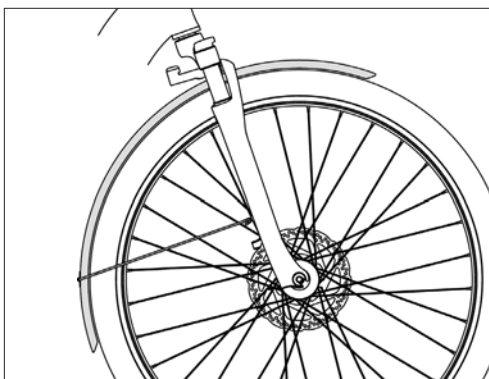

Fig. 19: Front fender in place
1. Slide the fender into place so that the top bracket is directly behind the fork arch, and the mounting arms are on either side of the wheel (Fig. 19).